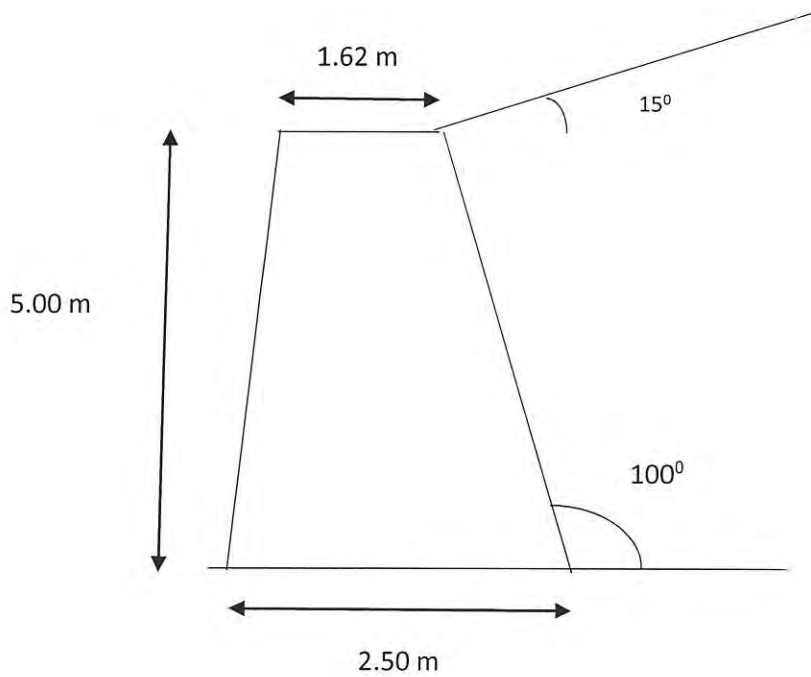

Figure Q4(c) : Retaining Wall
- (b) The gravity wall shown in **Figure Q4(c)**, is to support backfill with unit weight  $19.5 \text{ kN/m}^3$  and shear strength parameters  $c' = 0$  and  $\phi' = 36^\circ$ . The unit weight of the wall materials is  $24 \text{ kN/m}^3$  and the angle of friction  $\delta$  between the wall and the backfill is  $27^\circ$  and at the base of the wall is  $25^\circ$ . Evaluate;